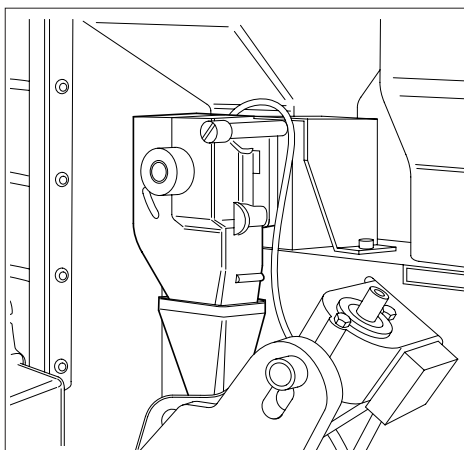

Fig. 3.6
- the grinder is activated until it reaches the dose of ground coffee set by the doser (Fig.3.6)